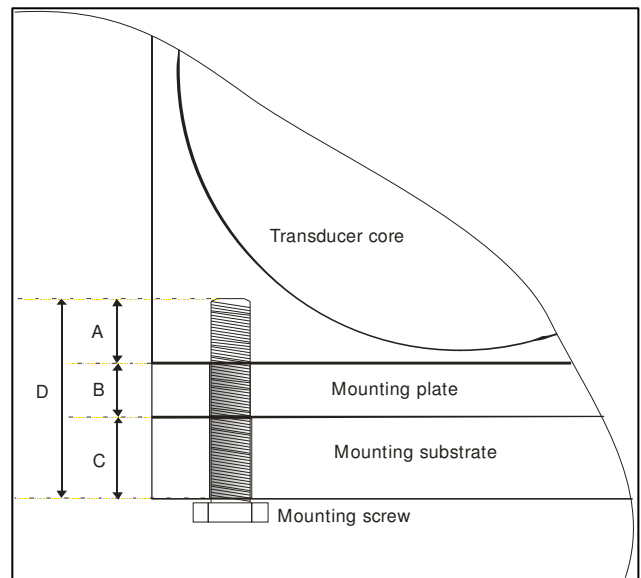

Figure 5
**STH 2000 / STH2000 HF:** The 2000A transducer head must be installed using two M8 screws. The head may be mounted in any orientation. Please observe that the length of the screws may not exceed the length D shown in figure 5. To calculate the maximum length of the mounting screw, measure the thickness of the mounting substrate C and add the length A + B which is 10mm + 15mm.